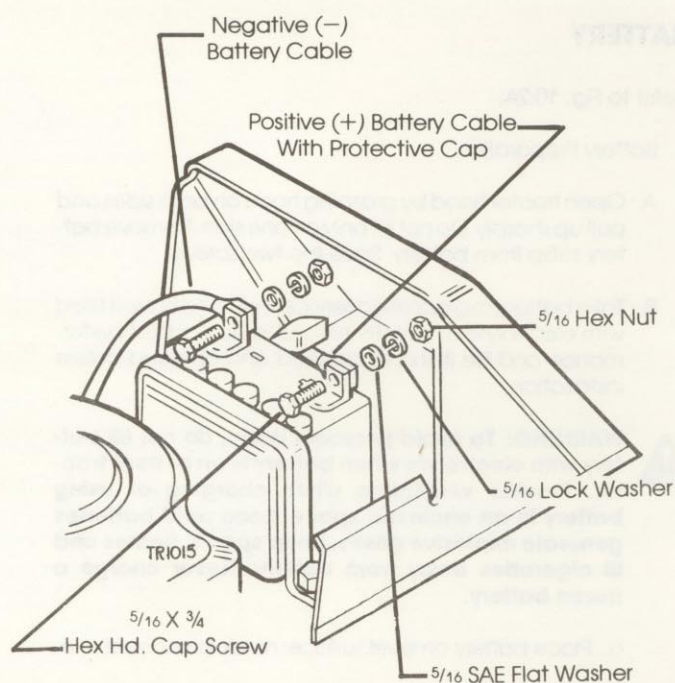

FIG. 10.3A
C. Securely tighten the positive battery cable (with protective cap) to positive (+) battery terminal (Fig. 10.3A). After assembly, slide protective cap over terminal.